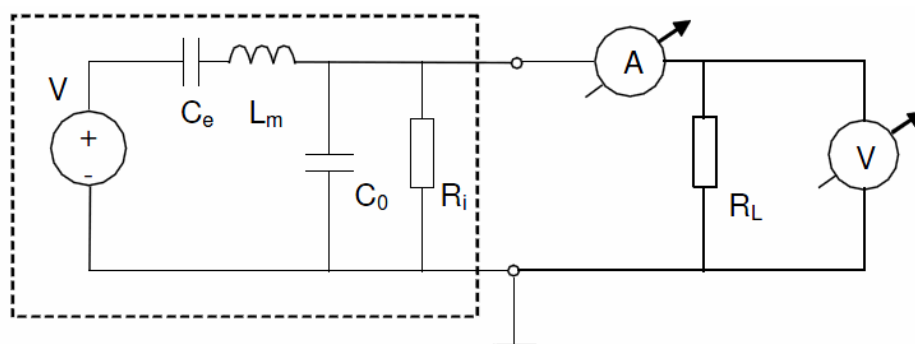

Figure 1.13: Equivalent circuit for piezo energy harvester
Figure 1.13 shows an equivalent circuit for a piezo harvester. In closed circuit (CC) conditions (i.e. when $R_{load} = 0$), the piezoelectric layer generates a charge only and no voltage is generated across the electrodes. In open circuit conditions the piezoelectric layer outputs a voltage without any charge. Both these *ideal* conditions can be simulated with Coventor's MemMech PZE solver.